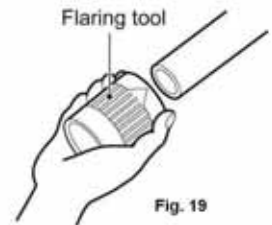

Fig. 19
- Remove the burring at the end of the pipe with a reamer. This operation is very important in order to obtain a good quality flaring (fig. 19).